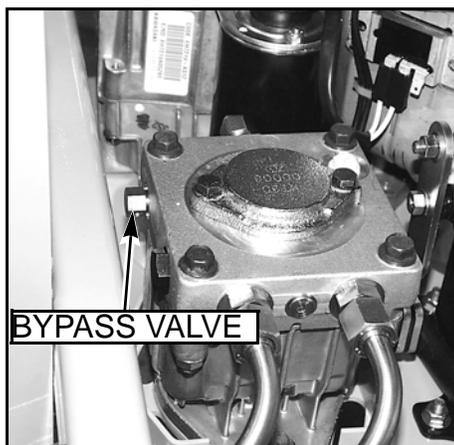

FIG. 25
3. Open the hydraulic pump's bypass valve FIG. 25, on the side that is being adjusted, by turning bypass valves counter clockwise one-half to one revolution. The valve stems on each hydraulic pump are located near the top and are identified as a hex stud.